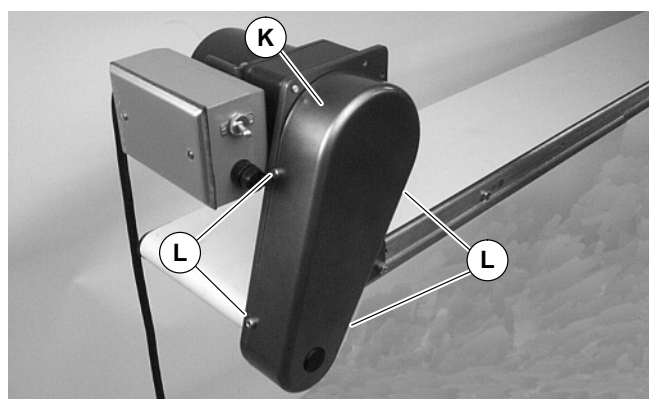

Figure 9
1. Remove four (4) screws (L of Figure 9) and remove cover (K).
4. Install cover (K of Figure 9) with four (4) screws (L). Tighten screws to 4 Nm.
6. Install cover (K of Figure 9) with four (4) screws (L). Tighten screws to 4 Nm.
2. Remove four (4) screws (L of Figure 9) and remove cover (K).